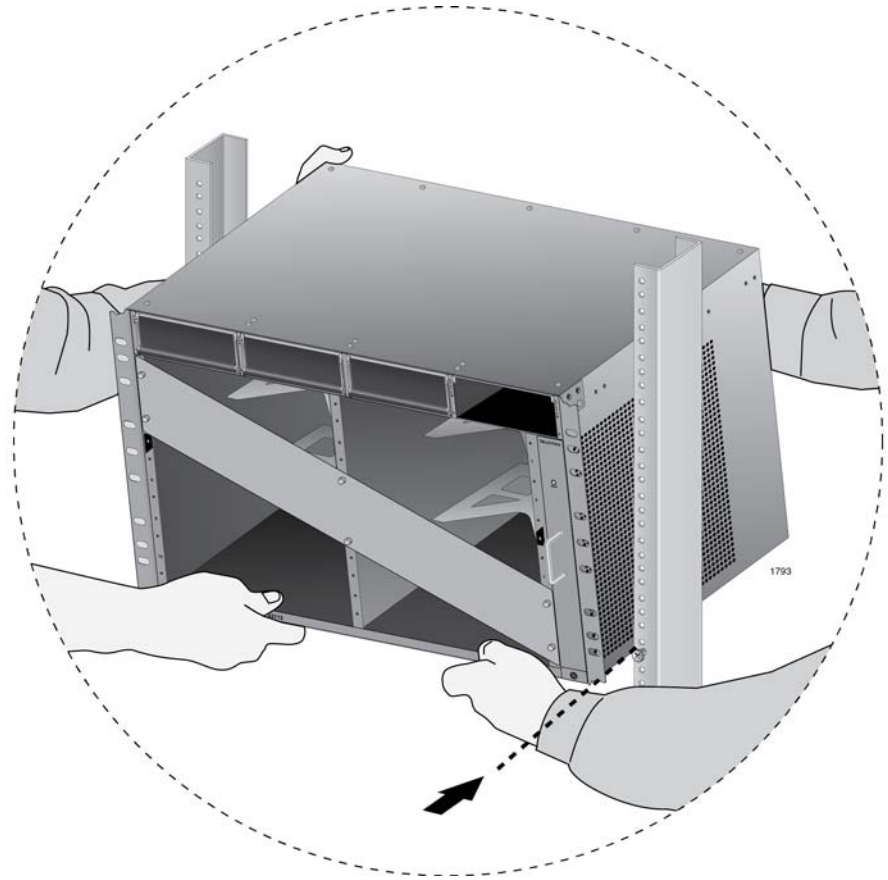

Figure 44. Lifting the AT-SBx3112 Chassis into the Equipment Rack
2. Do not mount any other equipment within 152.4 mm (6") above this space during installation. This additional vertical space is temporary and allows you enough room to lift and tilt the chassis into its position in the equipment rack without hitting other equipment, as shown in Figure 44 on page 109. You may use this additional space for other network equipment after the chassis is installed.
2. Lift the AT-SBx3112 Chassis into the equipment rack and set the bottom of the equipment rack brackets firmly on the two equipment rack screws you installed in “Preparing the Equipment Rack” on page 101. Refer to Figure 44.